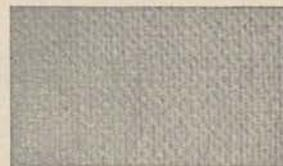

Figure 267.
c. A heavy weight canvas with a medium texture for general sketching (fig. 267).